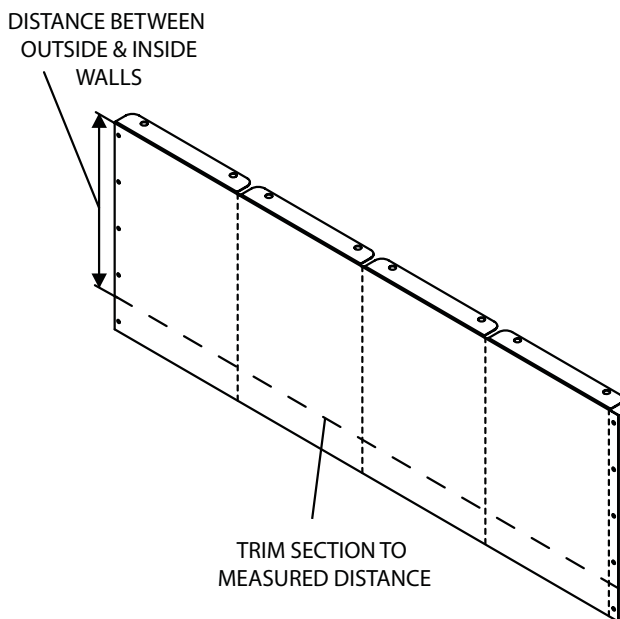
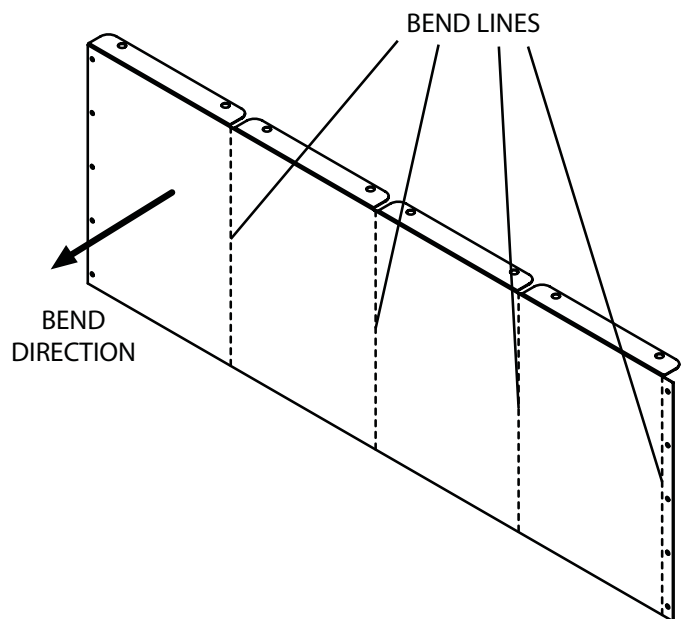

Figure 11. Trimming the ductwork to the correct length.
Figure 12. Bend lines and bend direction.
e. Measure the distance between the interior and exterior walls. Trim the ductwork to the distance between the interior and exterior walls as shown in Figure 11. Once the ductwork is trimmed, assemble it as shown in Figures 12 and 13. Seal the ductwork joint/edge with silicone or aluminum tape.